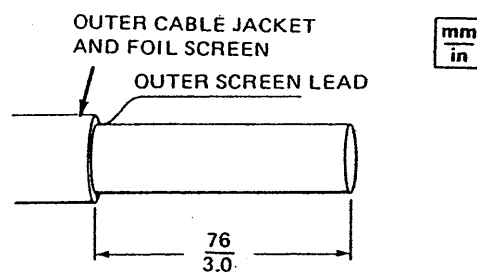

Figure 30.
- Strip back outer jacket and foil screen as shown in Figure 30. Cut outer screen lead flush with edge of jacket.